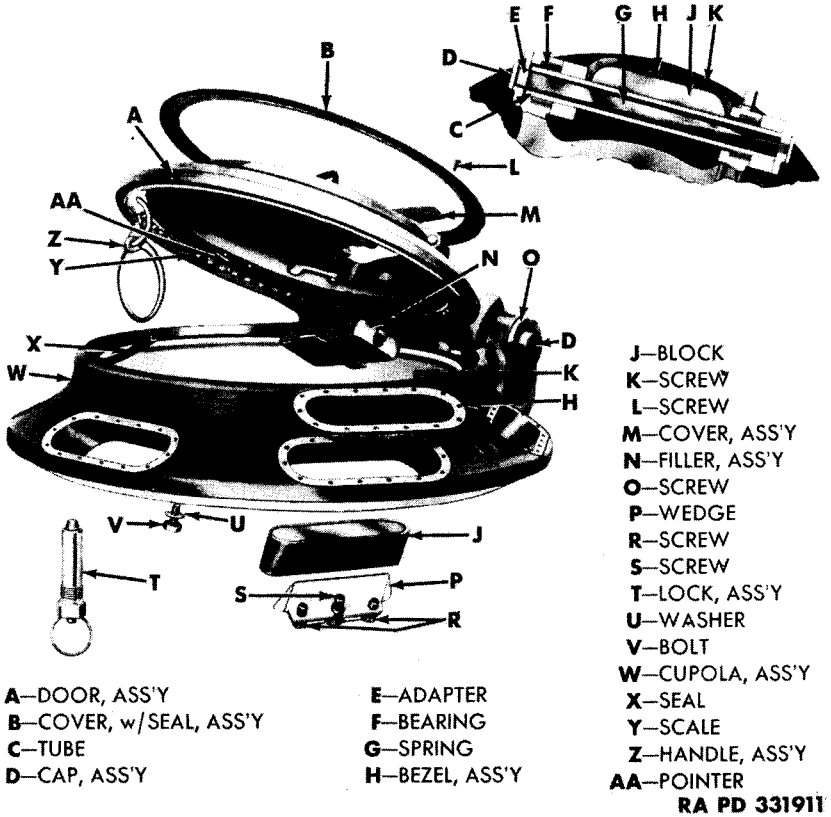

Figure 64. Commander's vision cupola and door (M24).
a. DISASSEMBLY. (1) *Remove cupola door assembly.* Open cupola door to the vertical position and hold in this position. Remove eight screws holding cap assemblies to outer ends of hinge (fig. 64). Remove caps. Torsion springs are now released with the door in the vertical position. Pull all six springs out of tube. While supporting door, push tube out of hinge bushing. Lift out door.
(3) *Remove vision block.* Remove the two wedge lock screws and the center jack screw locking each block in position (fig. 64). Remove wedge and allow block to drop down. Remove 14 screws holding bezel assembly to cupola. Remove bezel assembly.